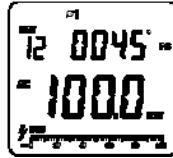

Figure 9
4. When measuring 3 phases 4 wires: (see figure 9, 10, 11, 12, 13, 14, 15, 16)
- Press **SELECT** to choose first phase $\varnothing 1$, see figure 9. The double displays show the active power kW value and also the PG value of $\varnothing 1$.